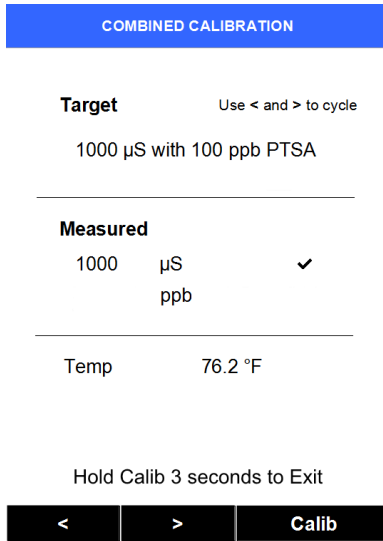

Figure 23
- 11) If Combined Calibration is successful, the Measured field will update to the Target conductivity value (1000 µS), or very close. A small variance is not problematic. A checkmark will show. The screen will momentarily appear as in Figure 23.